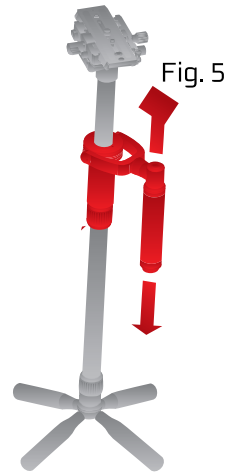

Fig. 5
2. Once the stabilizer is balanced on the horizontal plane, make the stabilizer slightly bottom heavy by trying one of the following: (Fig. 5)